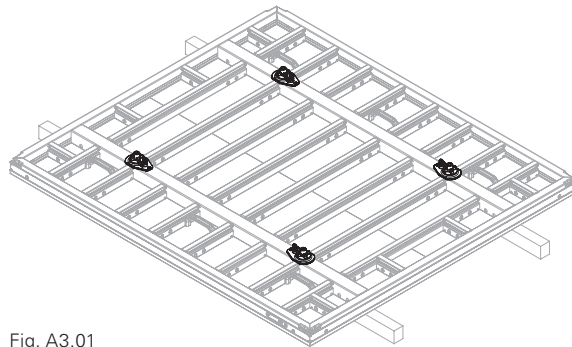
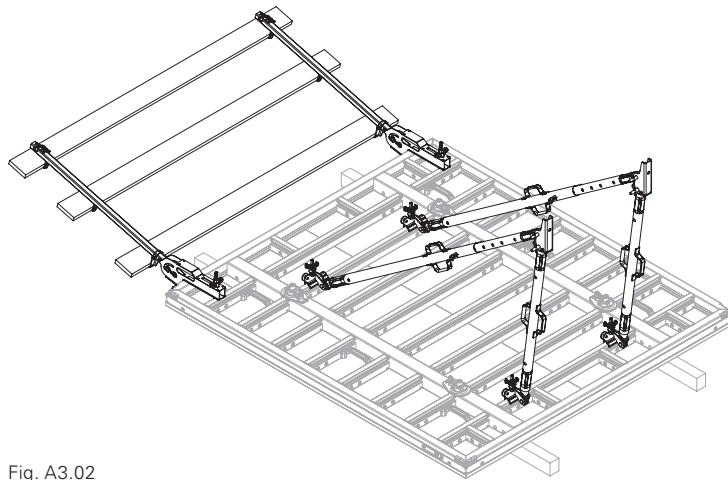
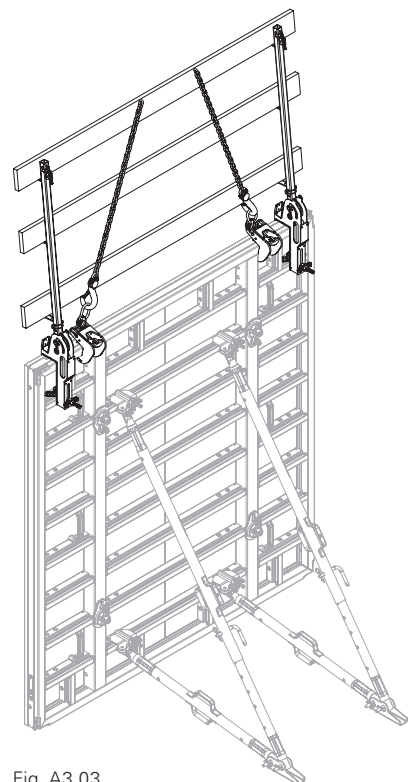

Fig. A3.01
Fig. A3.02
Fig. A3.03
2. PERI recommends fitting a Wingnut MX (14) in each tie point on the primary formwork, as these can then be pre-fitted on the ground. See Section A6. (Fig. A3.01)
3. Fit Push-Pull Props RS (16), see Section A11.
4. Fit the opposing guardrail to the horizontal Panel MX-2 (5), see Section A14. (Fig. A3.02)
5. Fit the Lifting Hook MAXIMO 1.5t (6).
7. Erect Panel MX-2 (5).
8. Transport Panel MX-2 (5) to the place of use by crane. (Fig. A3.03)
9. Secure Push-Pull Props RS (16), for example with Anchor Bolt SW24 Ø14/20x130 TG (30), see Section A11.